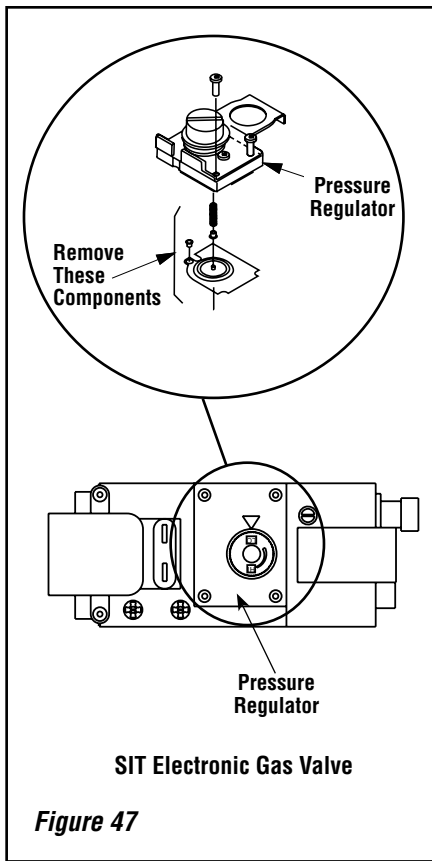

Figure 47
Step 5. Refer to *Figure 47 on Page 30* and the instructions provided with the kit. Using a Torx T20 (with 1/4" shank and center hole), remove and discard the three pressure regulator mounting screws. Remove the pressure regulator, spring, poppet, diaphragm and bushing. **Discard all removed components.**